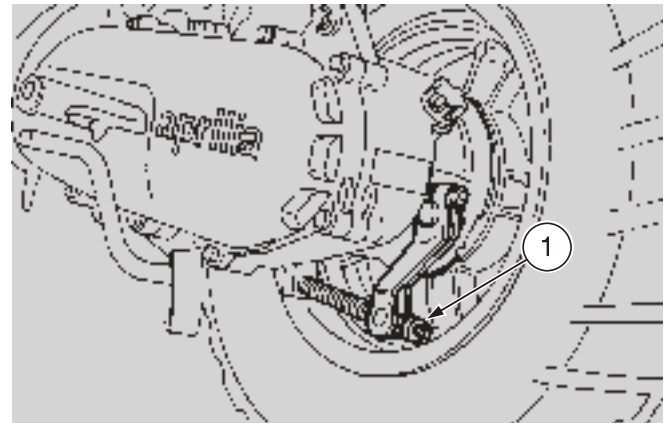

Fig. 18
- ◆ Adjust the clearance by acting on the adjuster (1-Fig. 18).
If the adjuster (1-Fig. 18) can be screwed up completely, this means that the brake shoes are worn out.